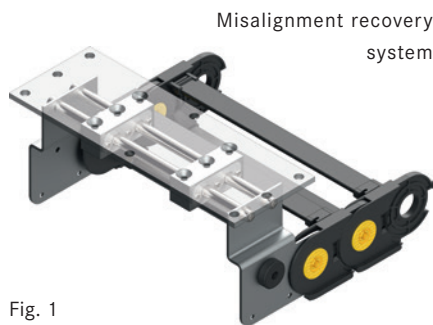

Fig. 1
- Misalignment recovery system (**Fig. 1**) for the mobile point in order to reduce the friction between the sidebands of the chain and the walls of the channel